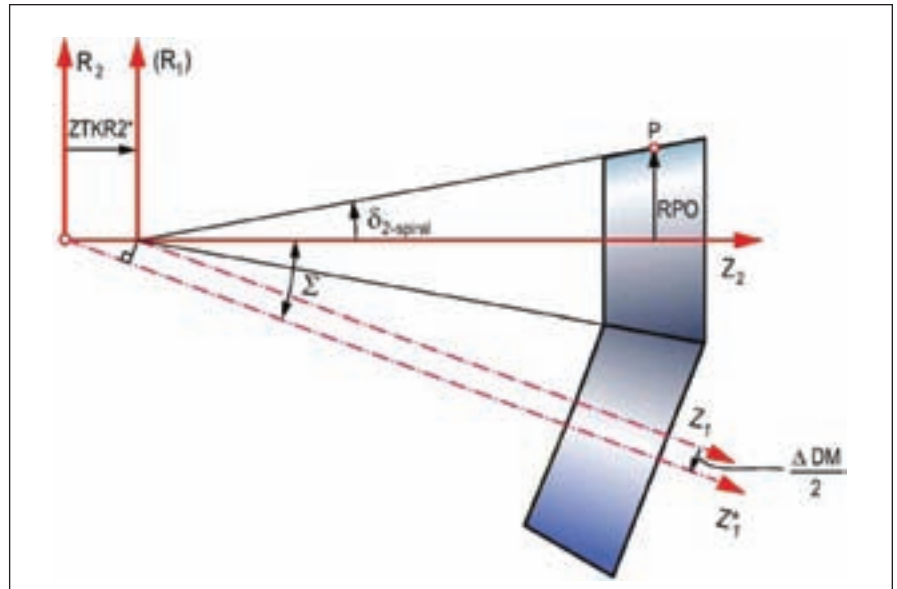

Figure 3—Pinion diameter increase.
2. In case of a pinion diameter increase ΔDM , the crossing point moves in negative z_2 axis direction and establishes a new coordinate system origin (Fig. 3):